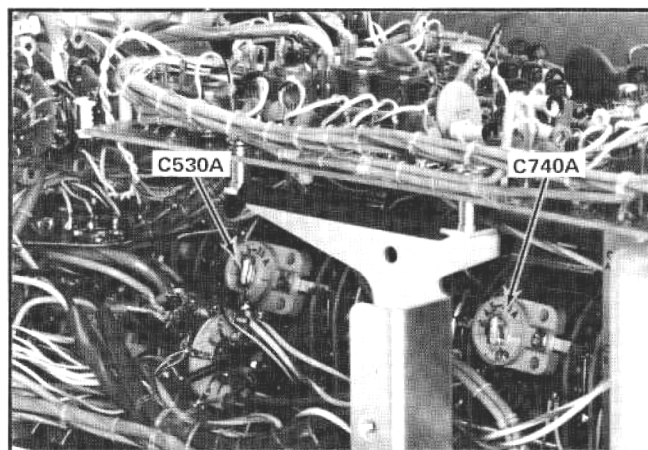

Fig. 5-15. Location of one-microsecond timing adjustments (behind swing-out side panel).
- e. ADJUST—C530A (behind swing-out side panel; see Fig. 5-15) for one marker each division (use low-capacitance screwdriver).
- i. ADJUST—C740A (see Fig. 5-15) for one marker each division (use low-capacitance screwdriver).